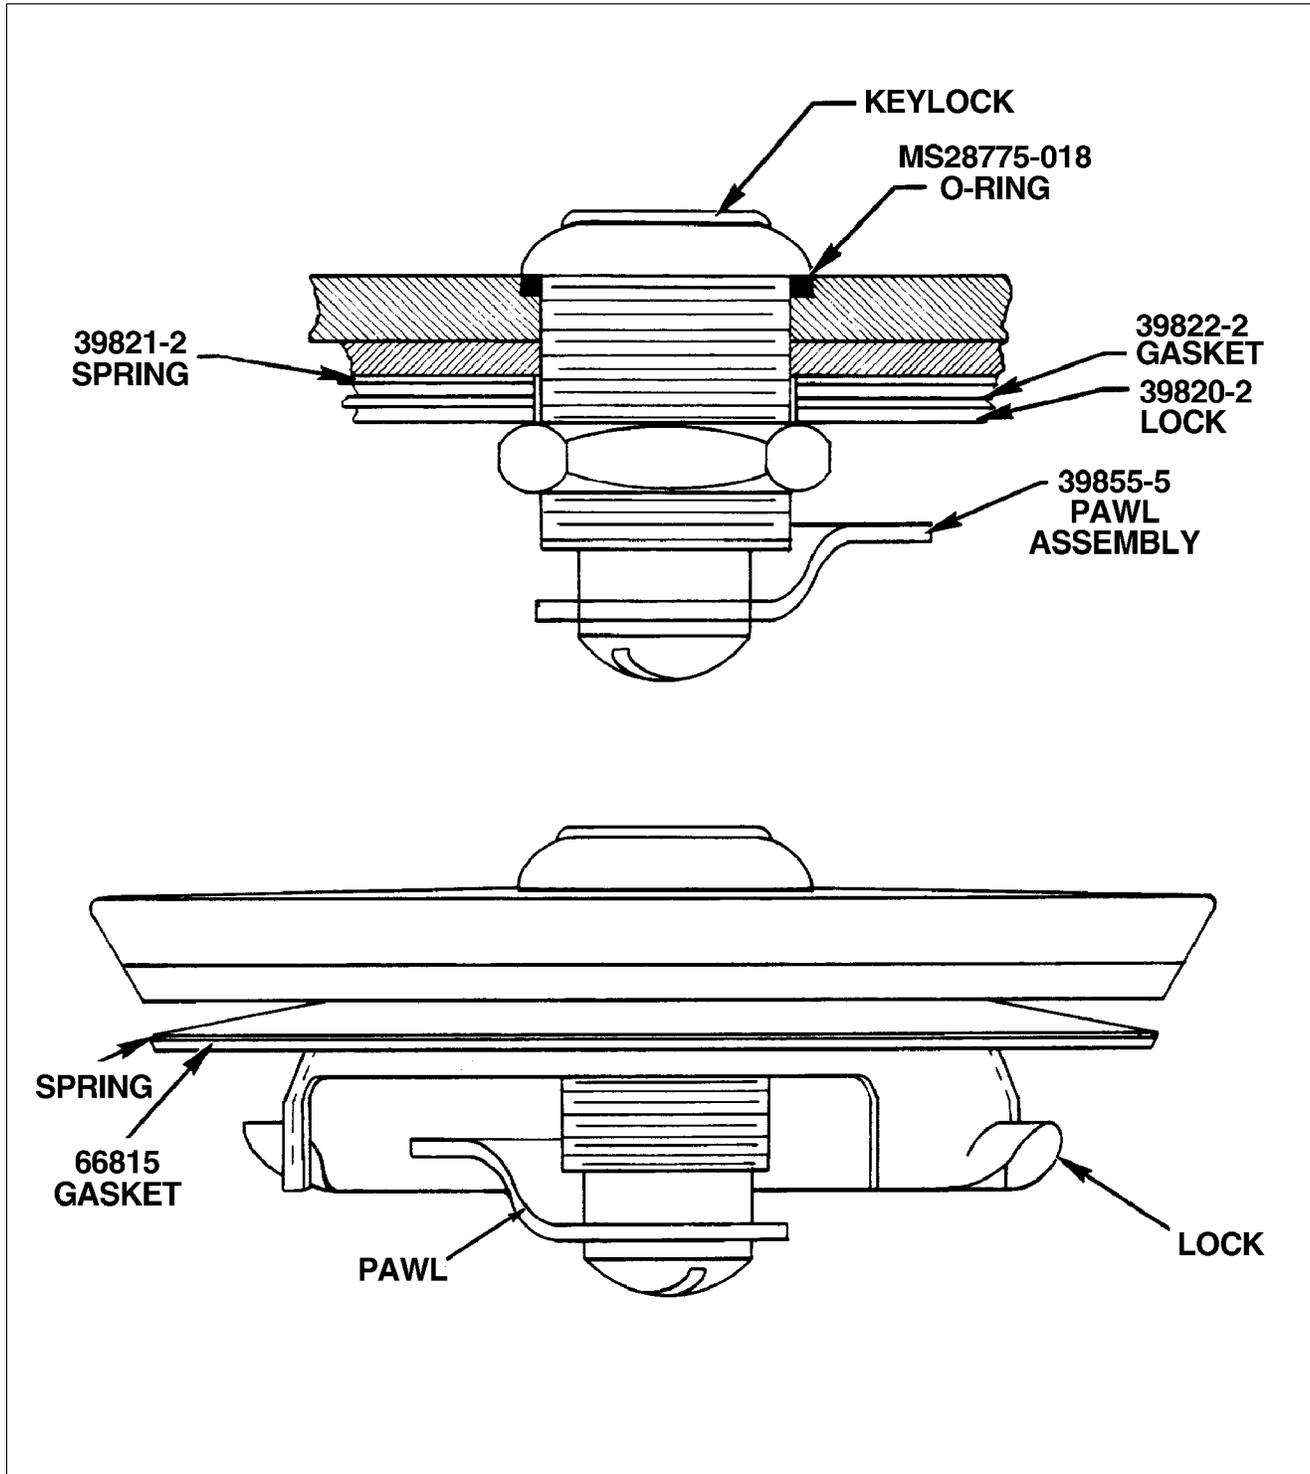

Figure 28-3. Locking Fuel Cap Assembly
**D. Locking Fuel Cap (Refer to Figure 28-3)**